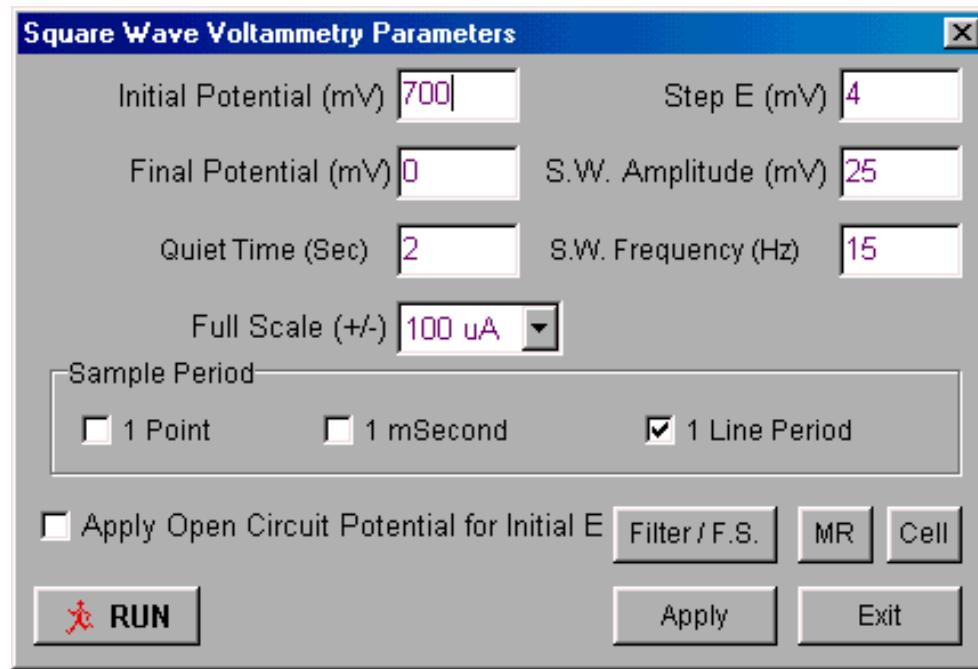
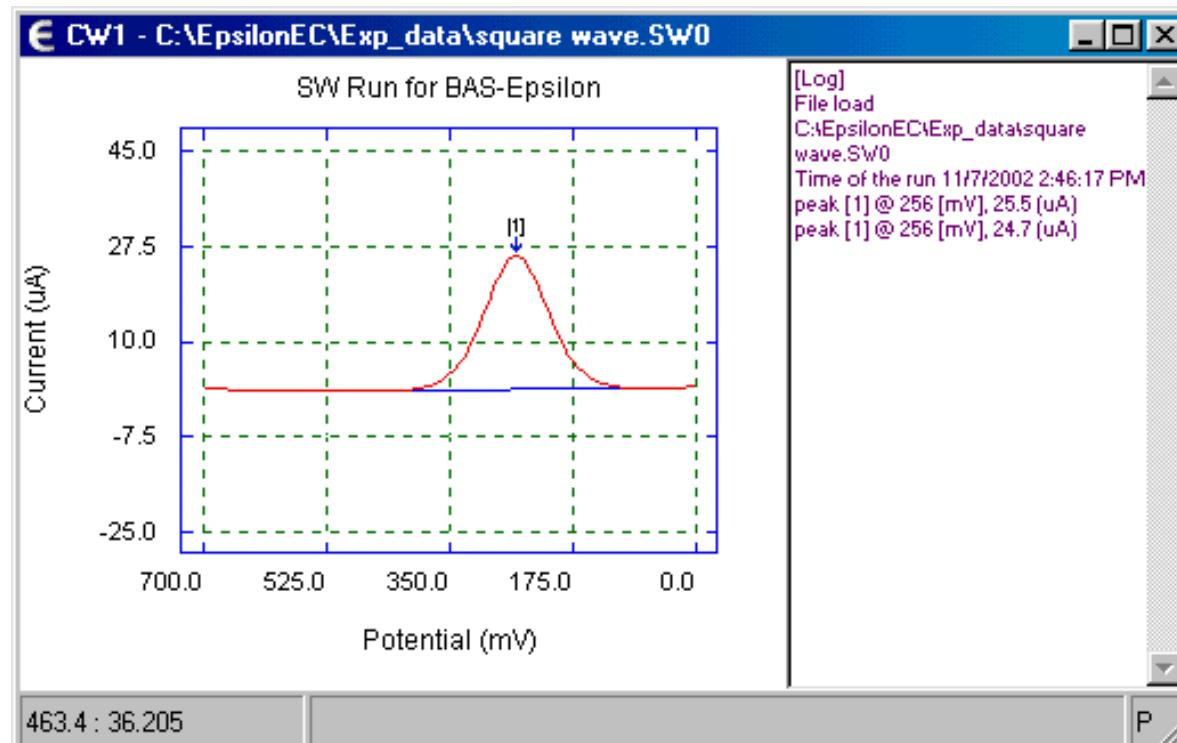

Figure 19. Change Parameters dialog box for Square Wave Voltammetry.
Figure 20. Default plot for **Square Wave Voltammetry**.
18. Click **New**, and select **Square Wave Voltammetry** (note that this requires the optional Basic Plus software). A fifth experiment window will be opened, together with the associated **Change Parameters** dialog box. Enter the parameters shown in **Figure 19**, then run the experiment. Typical data for a **Square Wave Voltammetry** experiment is shown in **Figure 20**.